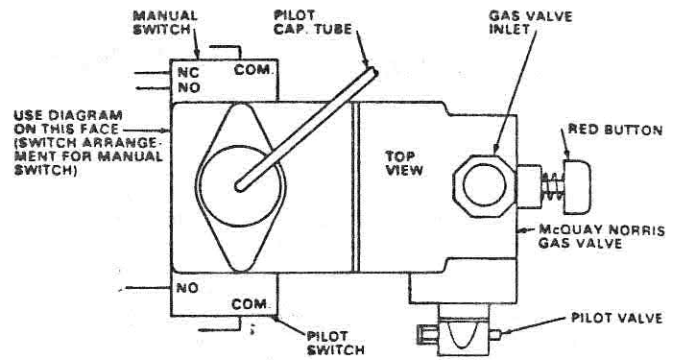

Figure 26b
- b. Leave the probe on the BLACK wire at the gas valve solenoid coil (negative side of the circuit). Move the other probe to "N.O." on the manual switch, figure 26b, depress the RED button on the side of the gas valve. If voltage is **not** indicated, the manual switch is defective and the gas valve must be replaced.